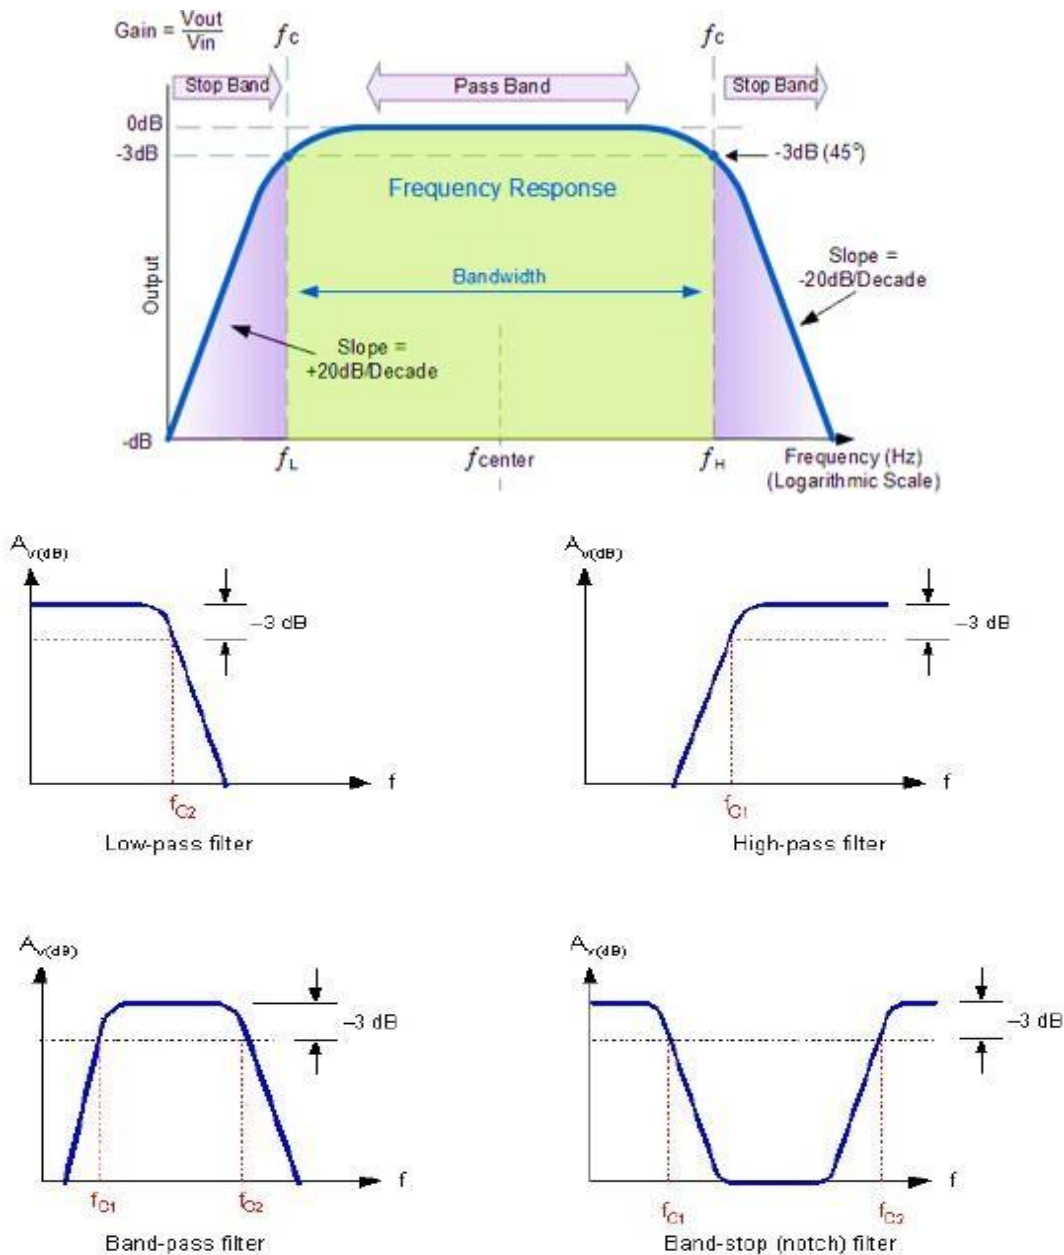

Figure 3.28 Frequency response curve
- A frequency response of an amplifier can be represented as frequency response as shown in Figure 3.28.